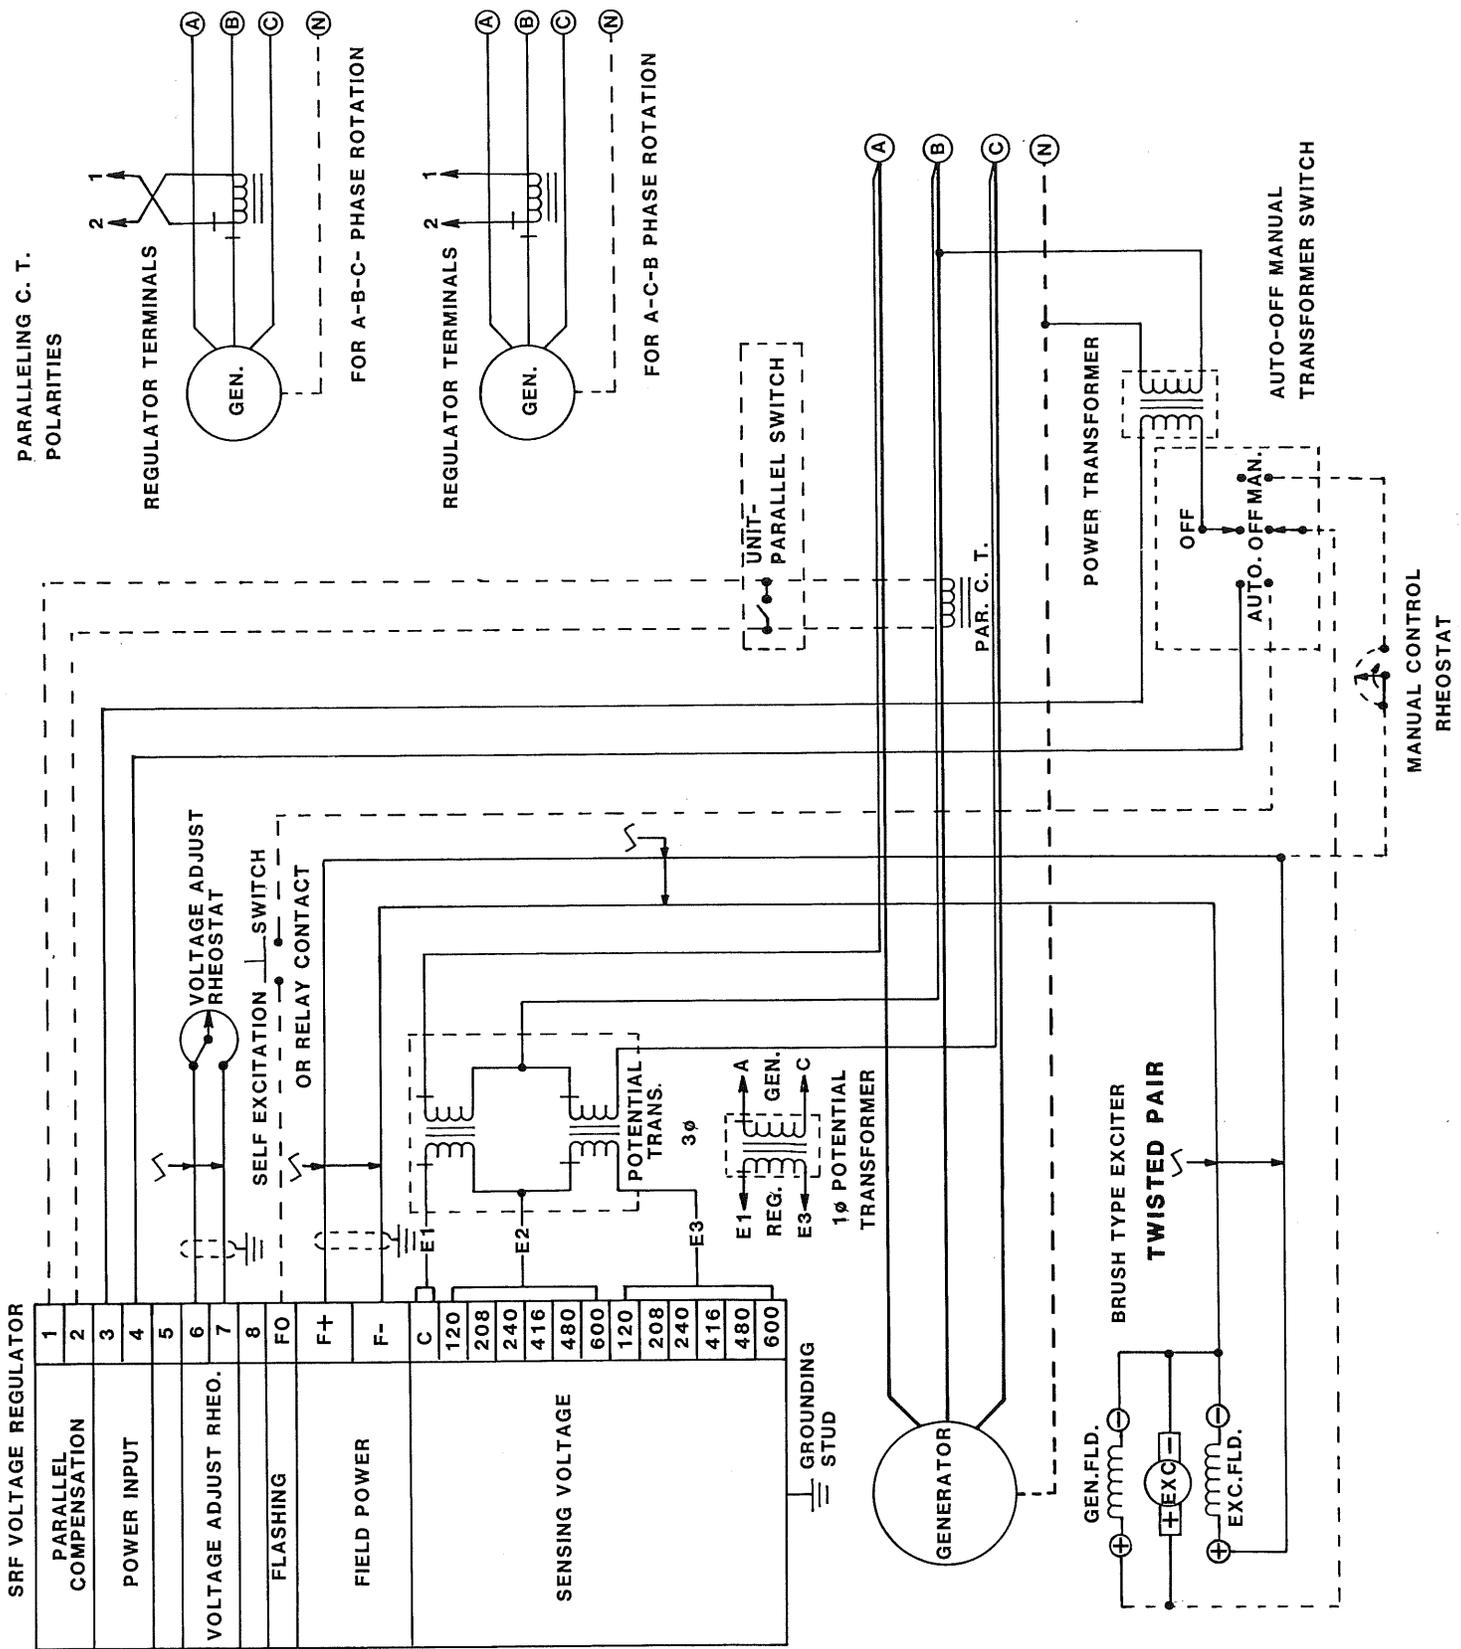

Figure 3-2. Brush Type Rotary Exciter Interconnection Diagram
(See figures 3-2 and 3-3 for interconnection requirements).	Conducted, Radiated, or Susceptibility
The regulator must be connected to the generator system as instructed in this section and as shown in the basic interconnection diagrams (Figures 3-2 and 3-3). Number 14 gauge wire (or larger) should be used for all connections to the regulator.
3.3.3.2 When making connections to the rotary exciter, polarities should be observed. The regulator F+ terminal connects to the exciter field positive terminal and the F- terminal to the negative terminal. With brush type rotary exciter applications, it is important to observe polarities between generator field, exciter output and exciter field. They should be as shown in the interconnection diagram, Figure 3-2. If the polarities are not known and the system has manual voltage control, polarities can be determined by operating the system on manual voltage control before connecting the regulator.
Before initial operation, review this section and section 3.0 to be certain that the installation and operation instructions are understood and followed. Also review the application interconnection drawings, Figure 3-2 or 3-3.